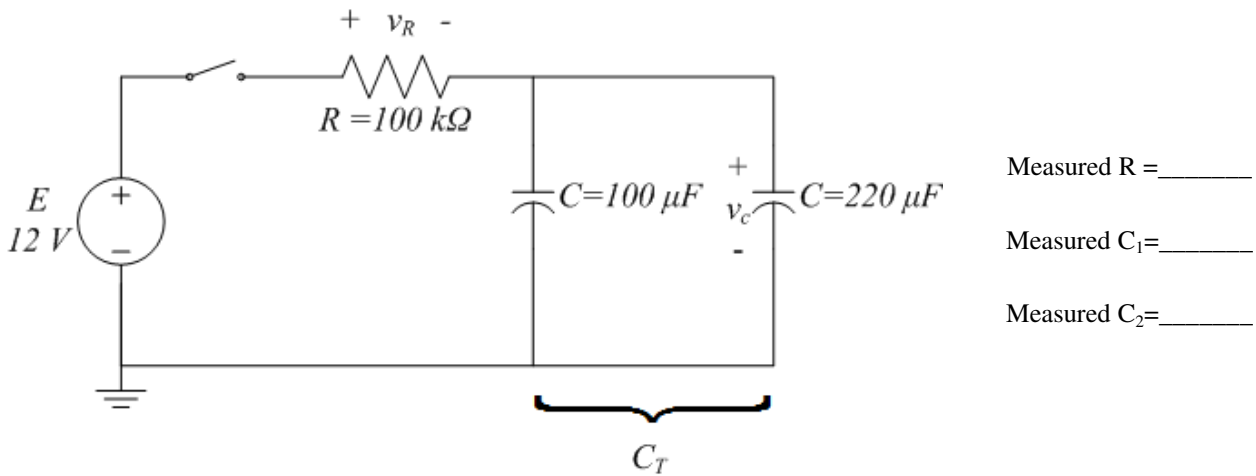

Figure 6.3: Parallel Capacitors
1) Construct the network of Fig. 6.3. Note the change in voltage! Insert the measured resistance and capacitance values.